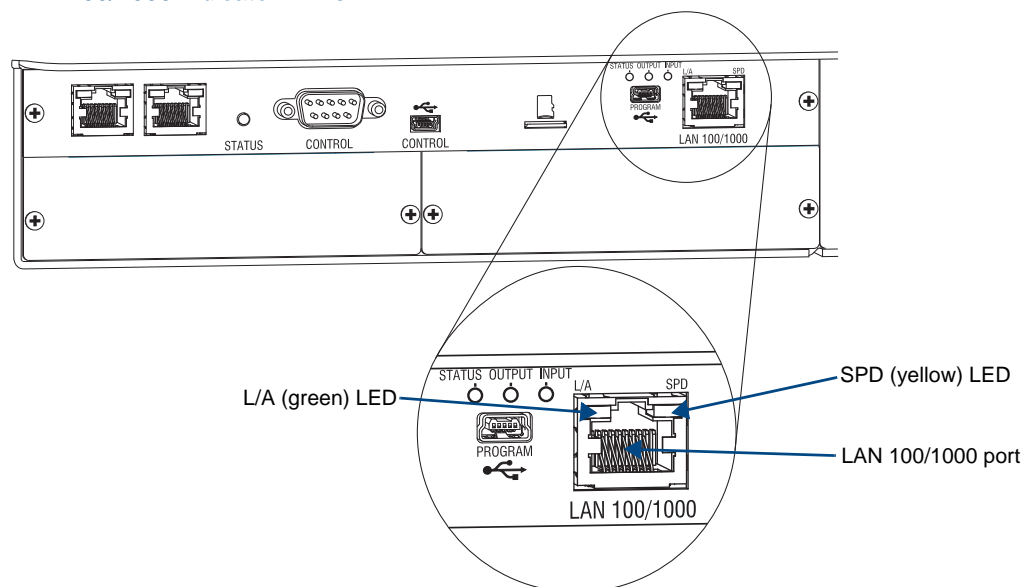

FIG. 24 LAN 100/1000 port and LED indicators
3. Check the indicator LEDs for the LAN 100/1000 connector (FIG. 24 on page 40).